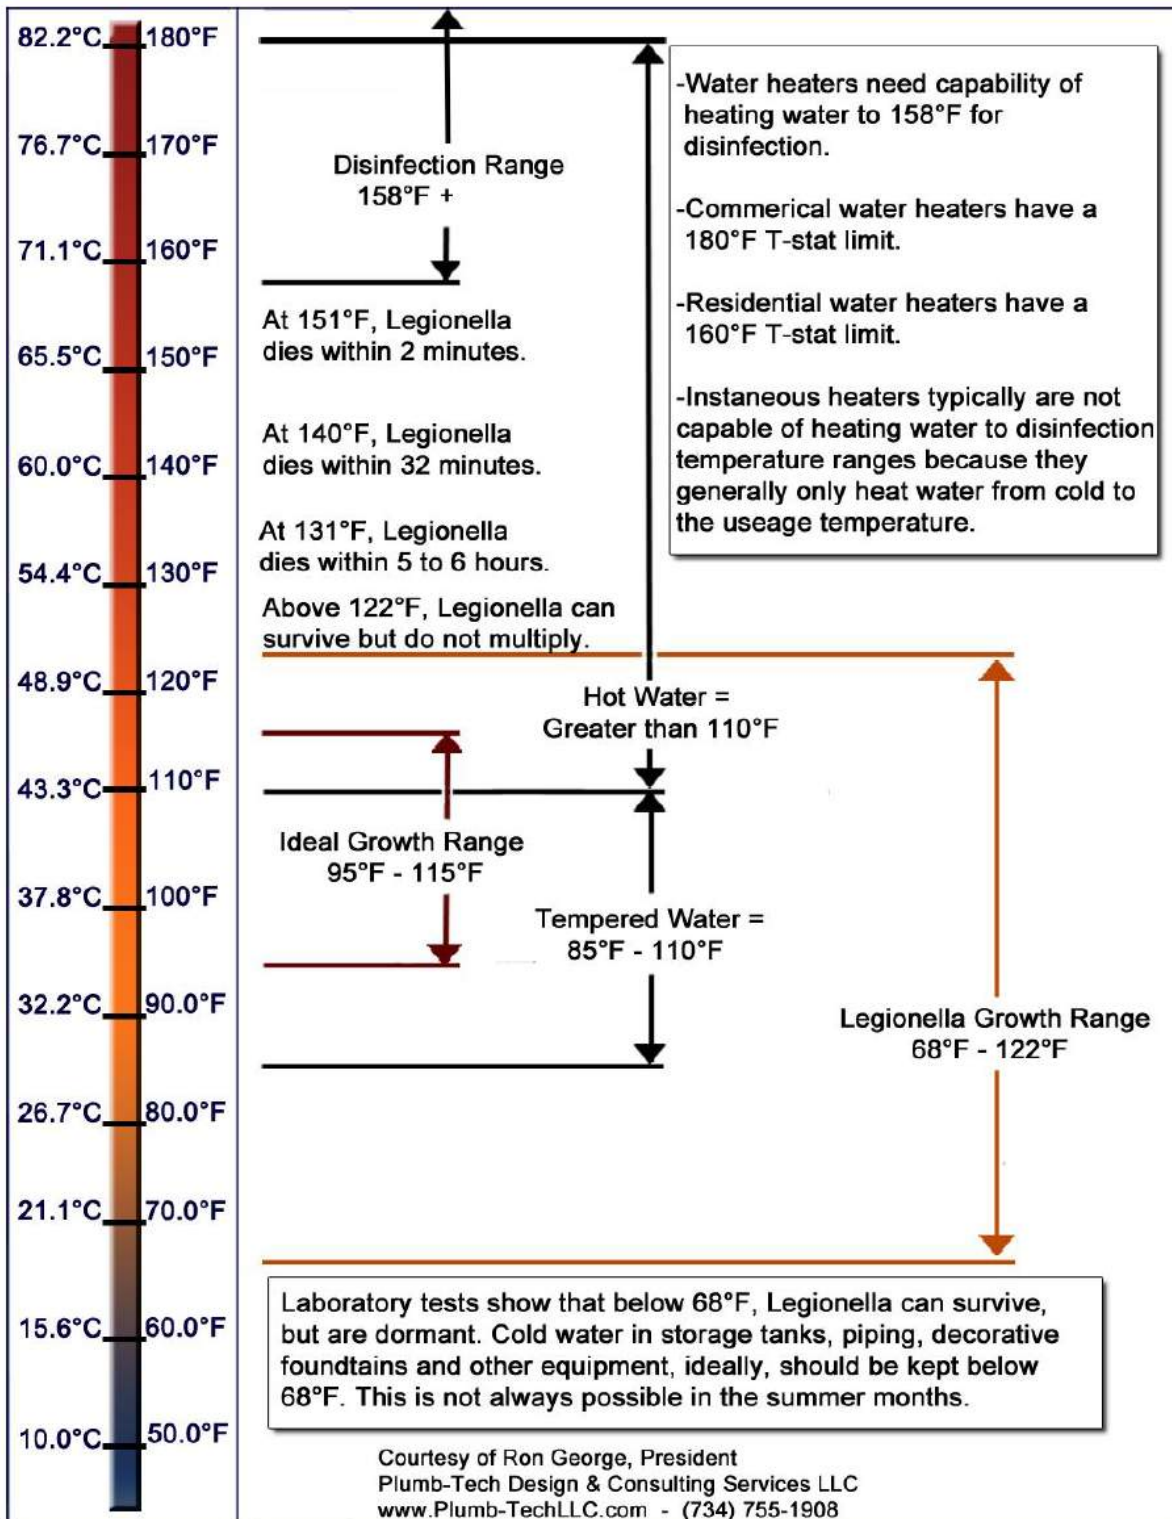

Figure 1 – Legionella Bacteria Growth Temperatures
In a hotel facility that I investigated, that had a prior Legionella problem the building maintenance personnel decided to disinfect their system with hot water at 150 F. Figure 1 shows with the water set at 150 F, the Legionella bacteria should be killed in just over 2 minutes. However, looking at the hot water return temperature in this large facility, there was a 37-degree temperature drop during peak usage hours and a 42 degree temperature drop during off-peak hours. (The hot water distribution and recirculation system was poorly designed) This created a condition where the hot water was leaving the water heater at 150 F and returning at 108 F during off-peak hours when the heat and flush operation was performed. The HW system was only capable of heating to 160 f because of the heating water heat exchanger. The system was incapable of heating the water in the entire system to a disinfecting temperature because of poor system design. When the temperature was dropped back down to the normal system operating temperature of 122 F, the return temperature would fluctuate between 80 – 85F based on the usage in the building. If 158 degrees F is required in all parts of the plumbing system, and the hot water circulation system is designed for a 20 degree temperature drop from the water heater outlet to the hot water return after the circulating pump, then the water heater outlet temperature should be 178 F. There are other ways to make sure a proper heat and flush can be performed for a building with somewhat lower water heating capabilities. Looking at the chart, Legionella begins to die at 131 F but it takes 5 to 6 hours at 131 F. So if the hot water return temperature is maintained for more than 6 hours and slightly above 131 f the hot water main circuit should be disinfected, however, the branches and dead legs will not be disinfected. A complete survey of the piping in the building should be performed to identify all branches and dead legs and water would need to be flowed from each branch for a period of time sufficient to kill the bacteria in the biofilm. Remember bacteria buried in a biofilm may be insulated from the water temperature flowing in the piping, so additional time flowing at a given temperature would be required to assure killing bacteria buried deep in biofilm and the underlying scale and calcium build-up on the pipe walls.
The flow rate through each branch should be for at least 25% more time than shown in the chart in Figure 1, in order to effectively kill bacteria within the scale and biofilm.
Water flowing from a fixture at 140 F requires about 32 minutes to provide a kill of all Legionella bacteria in laboratory test samples. Adding 50% to the 32 minutes means the water would need to flow for about 48 minutes at 140 F (140 degrees = 32 minutes from Figure 1 x 1.5 = 48 minutes).
**Large Scale Flushing Test Example 140 F:** Water flowing from a fixture at 151 F requires about 2 minutes to provide a kill of all Legionella bacteria in laboratory test samples. The minimum flow time from each fixture for thermal disinfection is discussed in various standards and minimum required thermal flushing of fixture branches can be as much as 15 minutes. Using the method above, with 151 Degree water flowing from the fixture outlet and adding 50% to the 2 minute kill time in figure 1, means the water would need to flow for about 3 minutes at a minimum of 151degrees F. (151 degrees = 2 minutes from Figure 1 x 1.5 = 3 minutes).
The proper way to design a domestic hot water system to control Legionella and Scalding in that order would be to store the hot water about 140 F to 150 F to be at a temperature that will kill Legionella bacteria or pasteurize the water in the storage tank and distribution piping system. Then the proper design would use a digital mixing valve that will deliver hot water to the distribution system at 134 F plus or minus 1 degree and record the temperatures continuously. The circulating pump size/flow rate and hot water system insulation thickness should be designed with the recirculation piping limiting the flow velocity to a maximum of 3 feet per second at a 10-degree temperature drop in the circulated loop so that the hot water return temperature is at or above 124 F. The reason for a minimum of 124 F hot water return temperature is because in the new ASHRAE 188 standard Legionellosis: Control of Legionella in building water systems suggests a hot water distribution temperature no less than 122F. If you look at Figure 1, Legionella bacteria stops growing about 122 F. A safety factor should be applied to assure the temperatures do not drop into the growth temperature range below 122 F. With 124 F selected as the minimum hot water return temperature, the 124 F hot water return water returns after the circulating pump where there should be a temperature gauge to monitor the lowest temperature in the hot water distribution and circulation system. The hot water return pipe should then split and go to the cold water inlet of the mixing valve and the cold water inlet of the water heater. The 124 F hot water return water mixes with 140 F hot water from the water heater in the digital mixing valve where it constantly monitors and records the system temperatures to deliver 134 F hot water to the distribution system. This is a relatively close temperature margin and some types of thermostatic mixing valves would have trouble mixing when hot water return temperatures get close to the delivery temperature. This is where digital mixing valves perform very good.